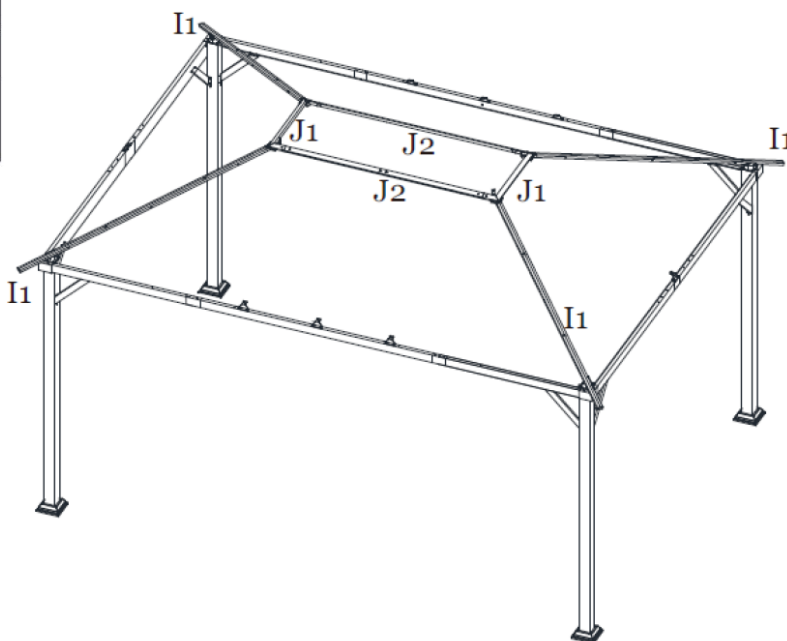

Figure 8-4
Step 8D: Repeat for all corners and **Tighten all Bolts.** See Figure 8-4.